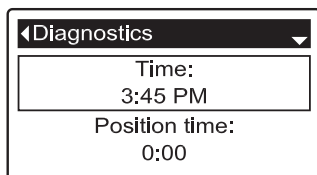

FIG. 84
8. Press the SELECT (O) button to display the Diagnostics screen (See Figure 84).